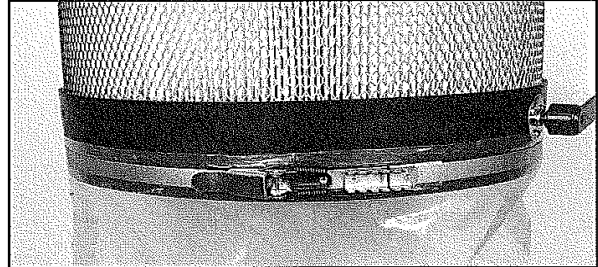

FIG. 7
2. Install the Strap Clamp (#16) around the canister and over the plastic bag. Lock it in place with the strap clamp. Engage the catch end of the strap with the clasp in the appropriate slot to ensure a tight fit, and press the lever with the palm of your hand to lock the clamp. Figure 7.